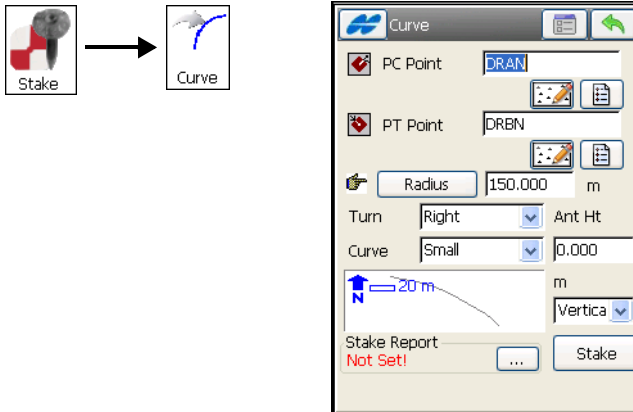

Figure 9-23. Curve
1. To stake out points along a horizontal curve, tap **Stake ▶ Curves** (Figure 9-23 on page 9-18).
2. On the *Curve* screen (Figure 9-23 on page 9-18), specify the reference curve by choosing the starting point (Point of Curvature), the ending point (Point of Tangency) and the radius parameter of the curve at the end point. The stakeout points have the same height as the starting point. Also, specify whether the curve turns right or left and whether to use a small or large part of the circle. Enter the antenna parameters (GPS+ mode), or the height of the rod (TS mode). Tap the **Stake** button.